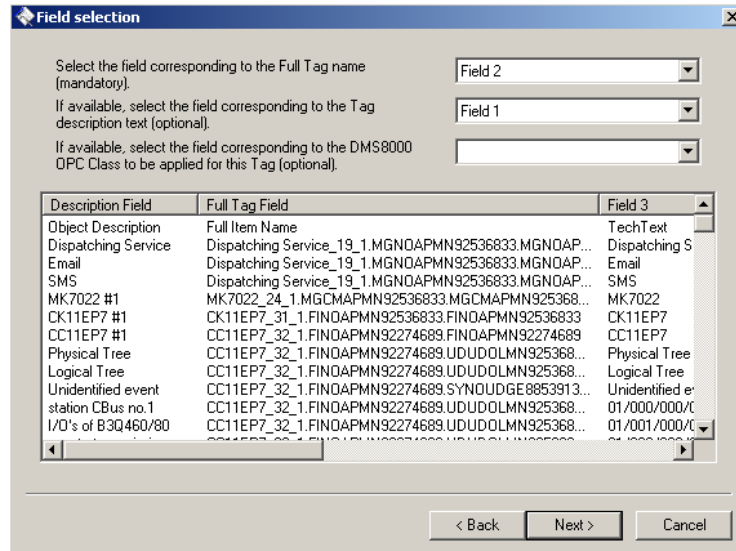

Fig 9 Step 2 of Import Wizard: select columns
- Select the corresponding column in the three fields on the top of the window (Fig 9). Only the first column is mandatory to execute the import. After the selection, press Next to proceed.